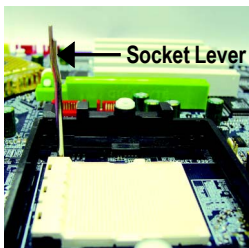
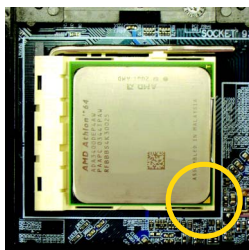

Figure 1.
Figure 2.
Step1-1. First, check the processor pins to see that none are bent. Move the socket lever to the unlocked position as shown in Figure 1.(90° to the plane of the motherboard) prior to inserting the processor. The pin 1 location is designated on the processor by a copper triangle that matches up to a triangle on the socket as shown in Figure 2. Align the processor to the socket and gently lower it into place. Do not force the processor into the socket.
- Figure 1: Dual Channel Technology (DS: Double Side, SS: Single Side)
- Figure 2: Non Dual Channel Technology (DS: Double Side, SS: Single Side)